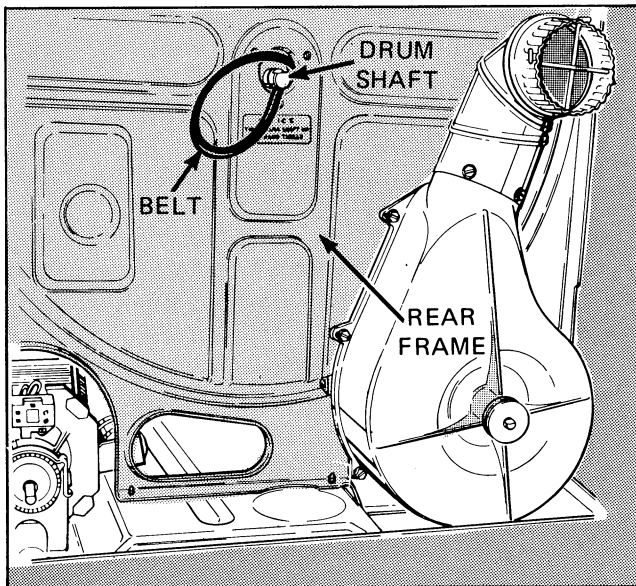

Figure 42A
5. Straighten out replacement belt so there are no twists in it, and work belt through drum shaft opening in rear frame until only a small loop of belt is remaining outside. (Figure 42A)